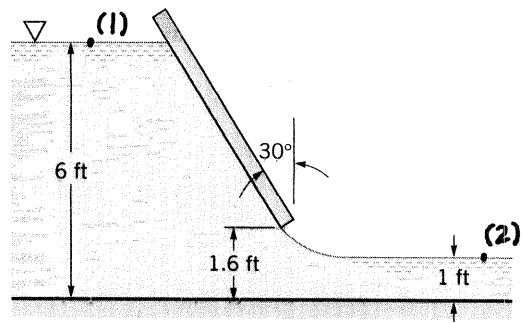

FIGURE P3.95
3.95 Water flows under the inclined sluice gate shown in Fig. P3.95. Determine the flowrate if the gate is 8 ft wide.